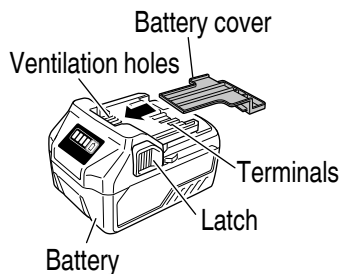

Fig. 6
- Either install the battery in the power tool or store by securely pressing into the battery cover until the ventilation holes are concealed to prevent short-circuits (See Fig. 6).